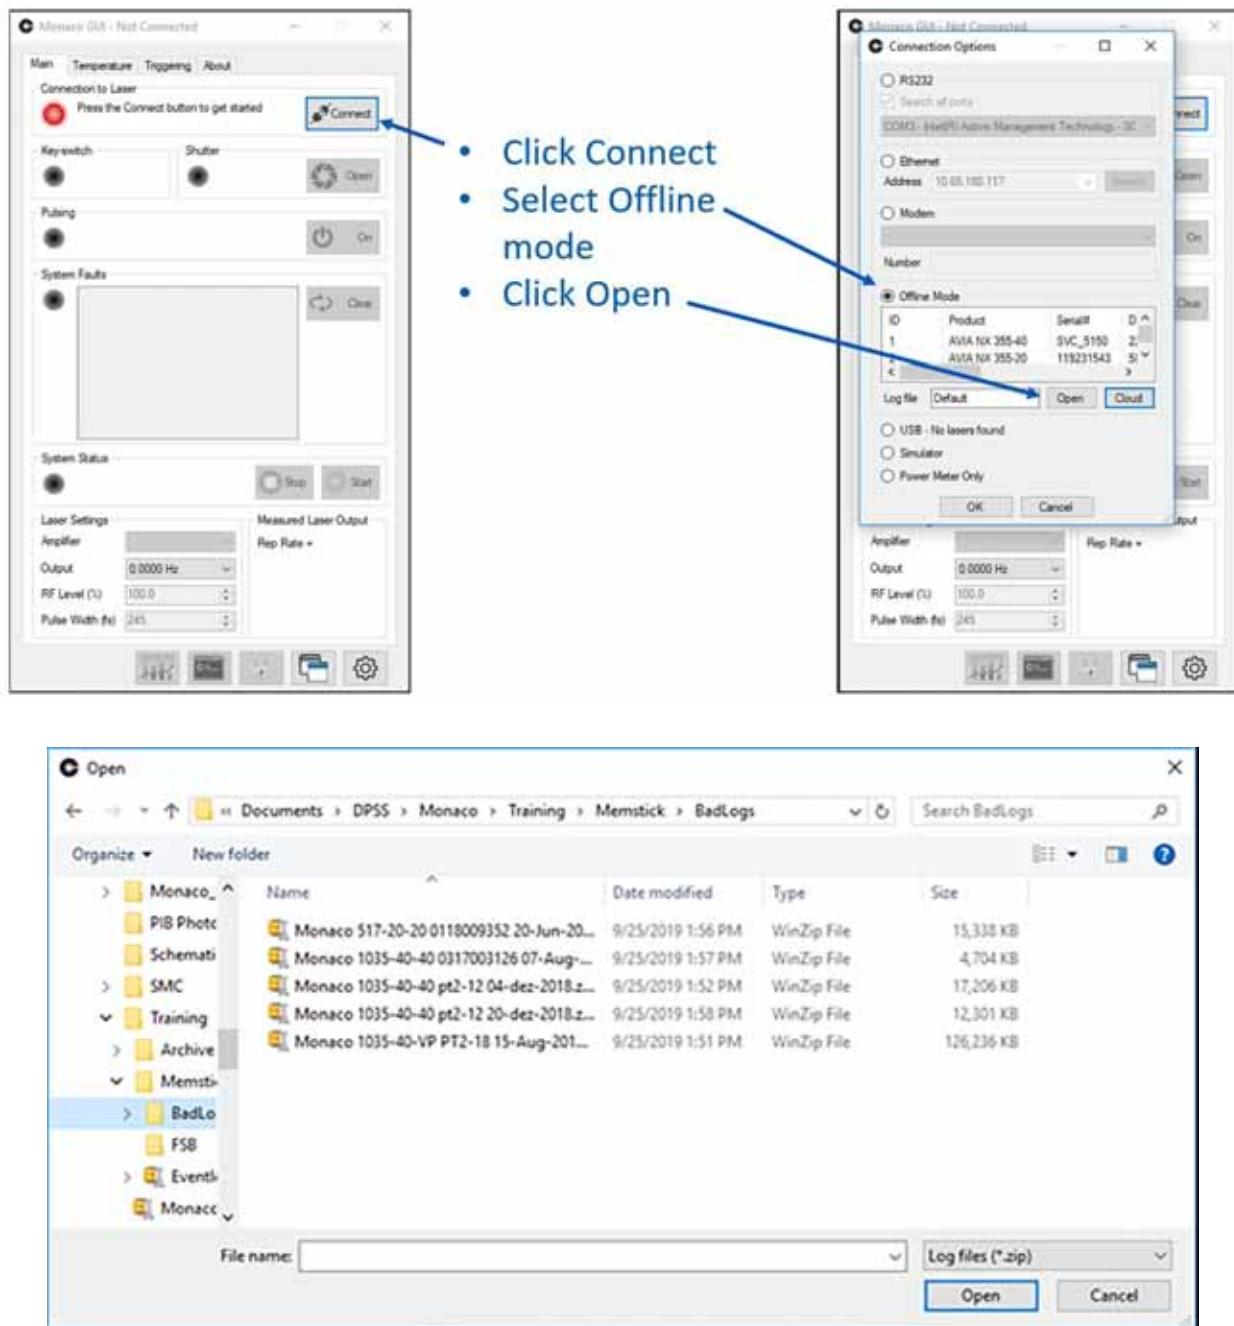

Figure 3.2-2. Opening Zipped Log File
2. Open the GUI in Offline Mode, and choose the log file (see Figure 3.2-2).